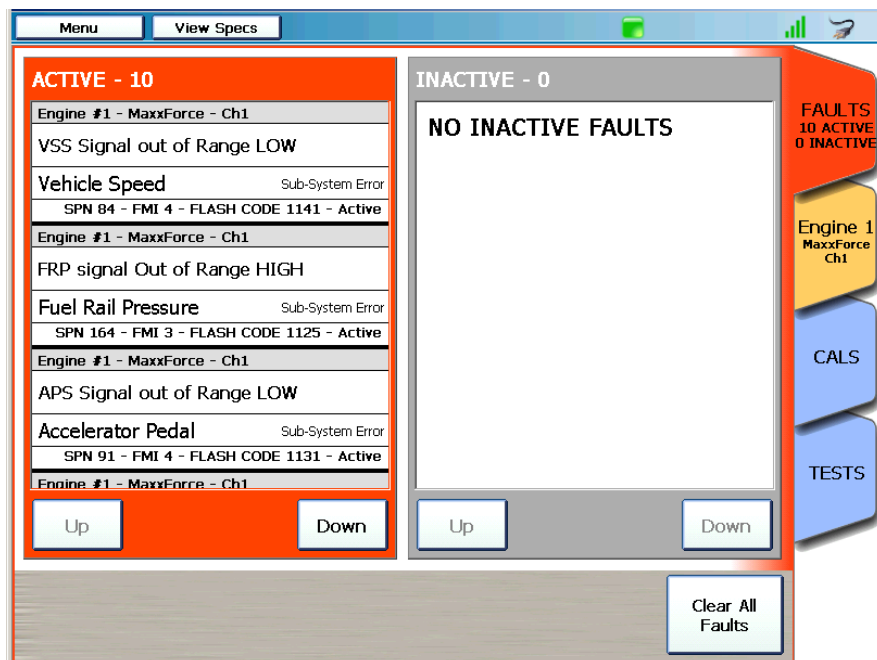

Figure 4.2 FAULTS Tab
When the scanning process is complete, the Diagnostics Menu (Figure 4.2) is displayed with the FAULTS tab in the top position. Faults are displayed in two categories:
- 5 Touch the red **FAULTS** tab to go back to the list of faults (Figure 4.2).